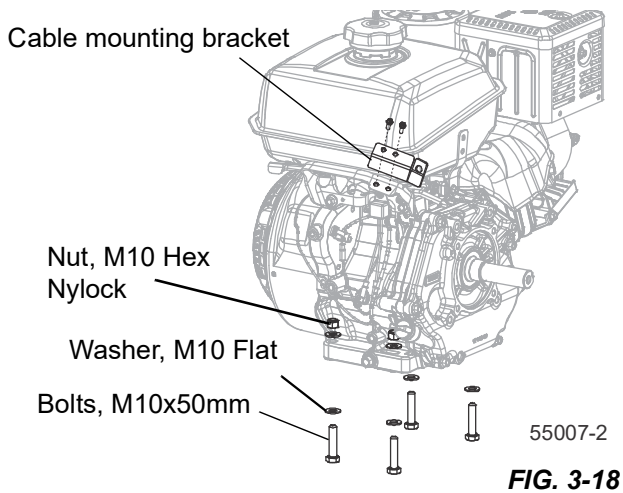

FIG. 3-18
- Set the engine on the engine mounting platform and loosely secure with M10x50mm bolts. See Fig. 3-18.